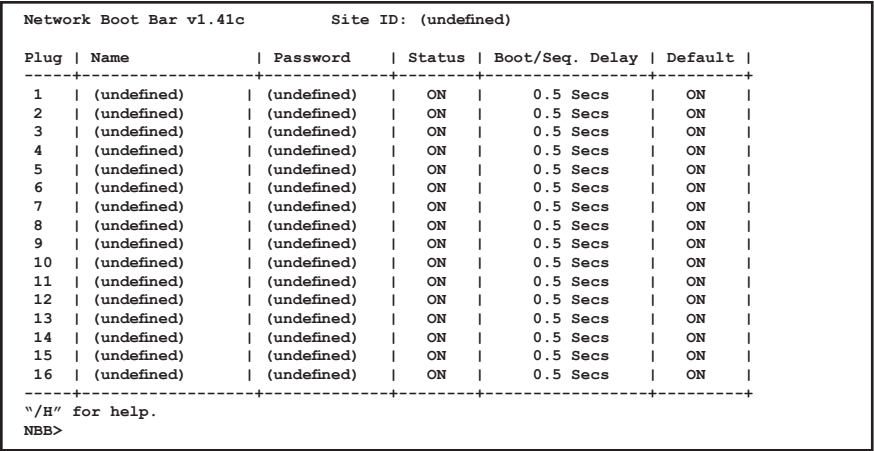

Figure 3.2: Plug Status Screen - Text Interface
- i. **Via Telnet:** Telnet to the NBB's default IP address (192.168.168.168). The Plug Status Screen (Figure 3.2) should be displayed.
- ii. **Via Local PC:** Start your communications program (e.g., Hyperterminal) and then press **[Enter]**. The Plug Status Screen should be displayed as shown in Figure 3.2. The default communications parameters for the Console Port are 9600 bps, No Parity, 8 data bits, One stop bit.